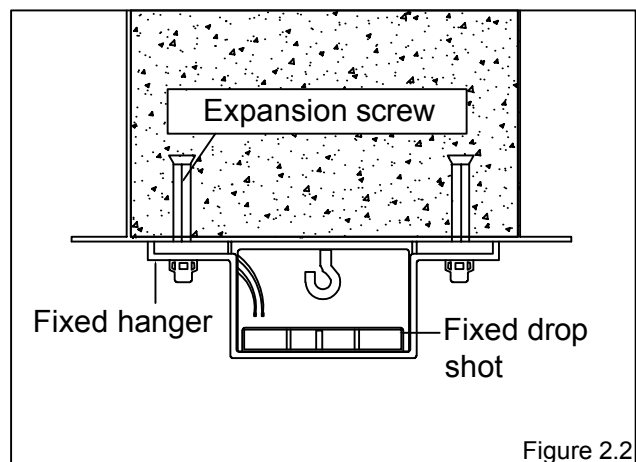

Figure 2.2
- For Concrete Ceiling: Drilling a pilot hole in the base material with a hammer drill and a correctly sized carbide drill bit for the anchor and clean out the hole of all debris. Knock the expansion screw into the hole and then tighten it with a wrench. (Figure 2.2)